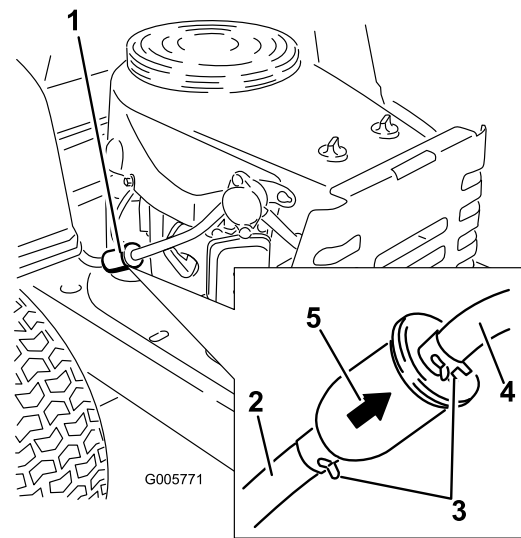

Figure 30
4. Squeeze the ends of the hose clamps together and slide them away from the filter (Figure 30).
6. Install a new filter with the flow direction arrow coming from the fuel tank and pointing to the engine. Move the hose clamps close to the filter (Figure 30) to secure it in place.